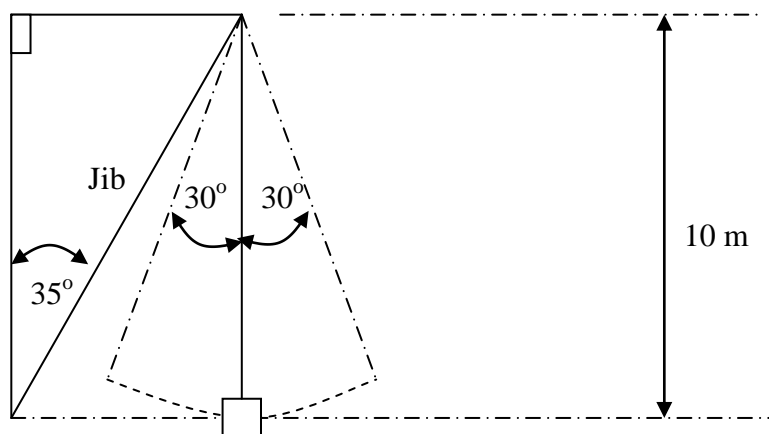

Fig Q2
- (a) the energy lost in descending the incline; (2)
- (b) the speed of the truck at the bottom of the incline. (14)
2. A vertical post and horizontal tie support a loaded jib as shown in Fig Q2. The load of 40 kN is suspended on a load wire which is allowed to oscillate through 60 degrees.